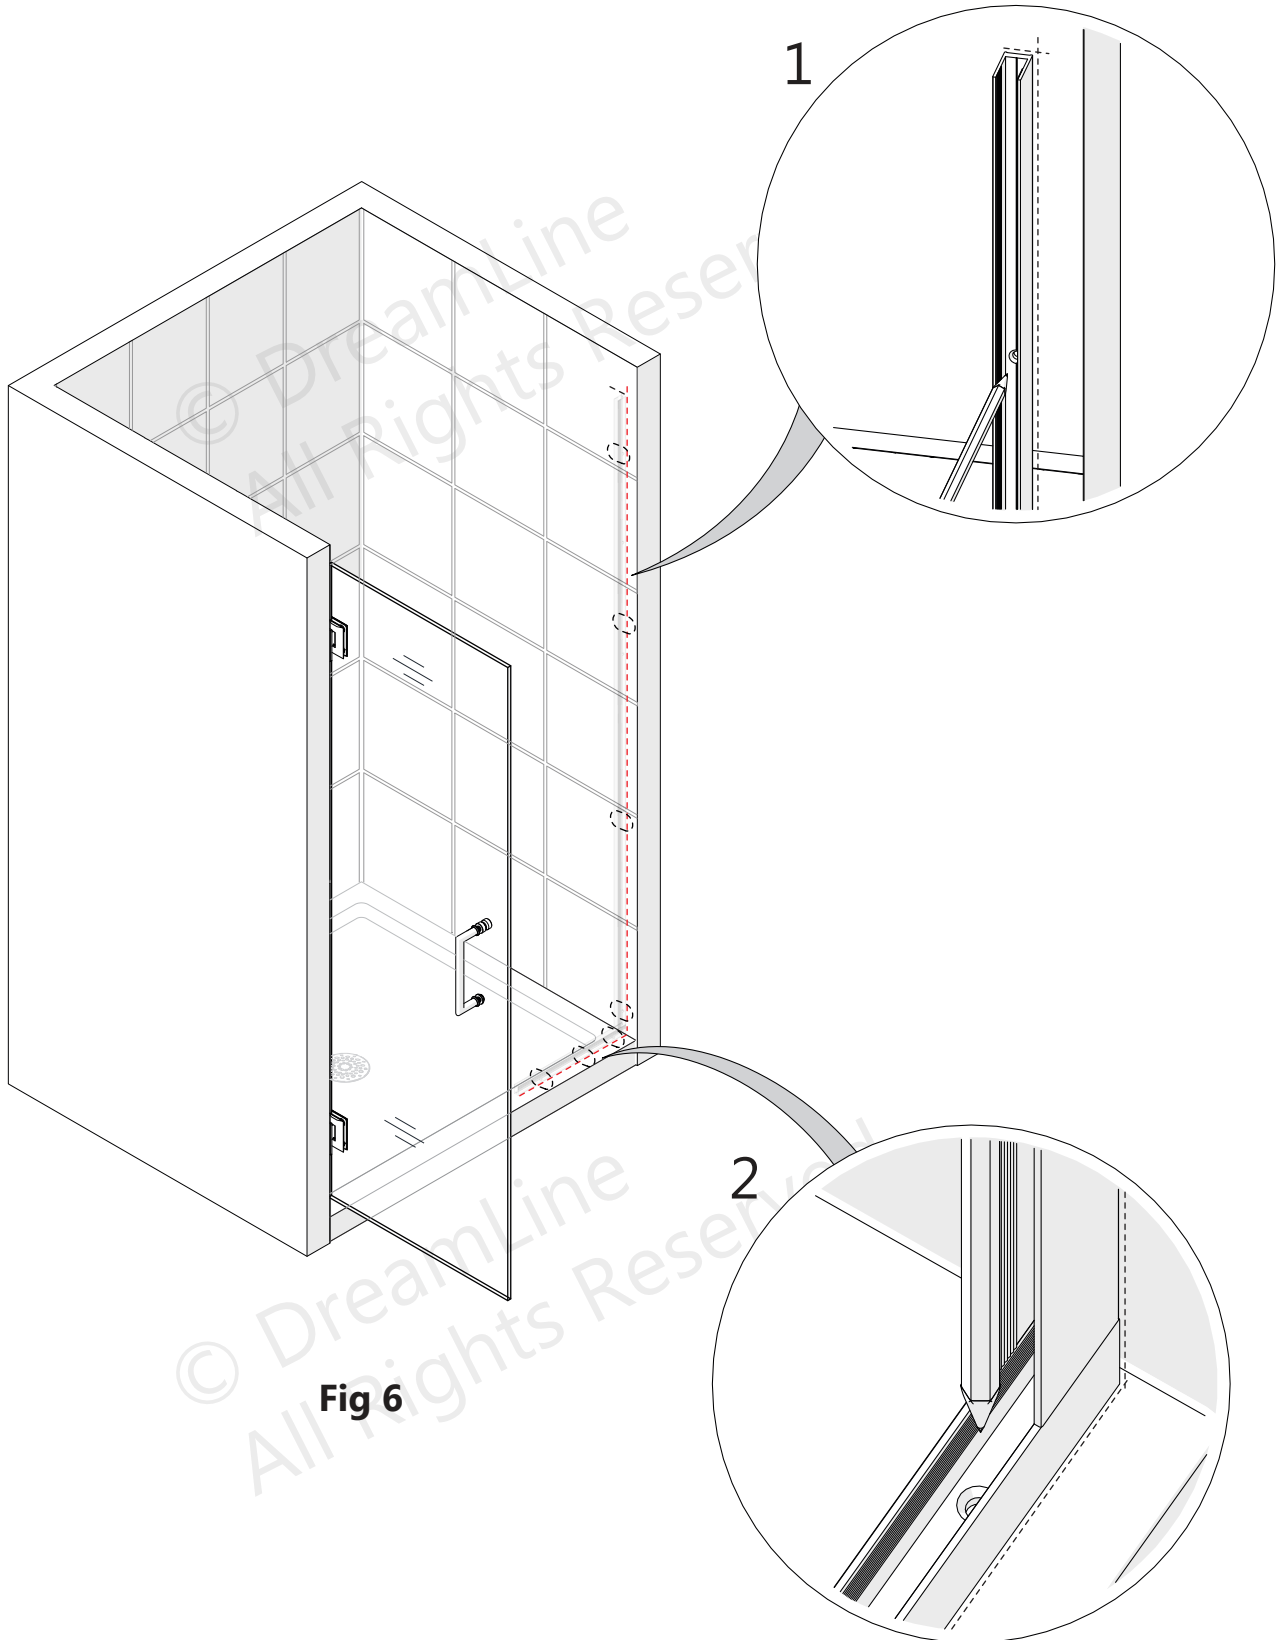

Fig 6
6. Place the **Wall Profile (#09)** back onto the outlined position on the wall and mark the holes for drilling through the predrilled holes in the **Wall Profile (#09)**. (**Fig 6**)